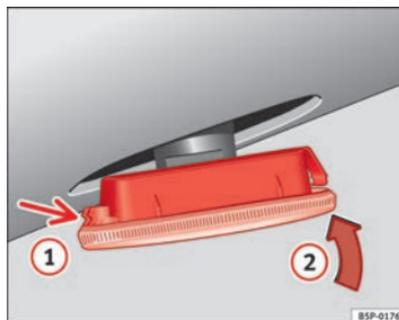

Fig. 223 Side turn signal
- First place the turn signal in the opening in the bodywork, fixing the tabs ⇒ Fig. 223, arrow ①.
- Insert the bulb as shown by the arrow ② ⇒ Fig. 223. ■